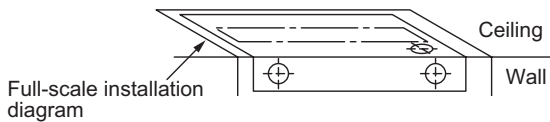

Fig. 2-68
- (1) Place the full-scale diagram (supplied) on the ceiling at the location where you want to install the indoor unit. Use a pencil to mark the drill holes (Fig. 2-68).